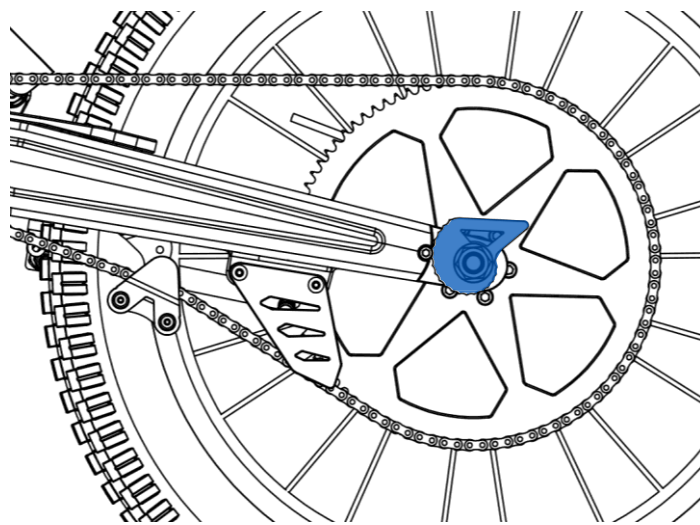

Fig. 17
- 3- Turn the eccentric adjuster (Figure 17), to a position depending on the chain slack, and obtain the correct tension. Make sure that the stop is located between the teeth of the eccentric adjuster and the two sides equally. These components must be placed in the correct position according to the required tension level.
- 4- It is necessary to turn the eccentric completely to adjust its position. Figure 17 shows the configuration corresponding to the minimum position of the wheel, which must be maintained until half of the travel is reached.